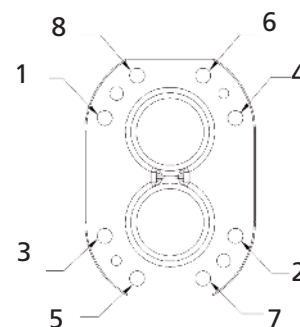

Figure 10. Bolt tightening sequence
6. Slide the cover over the dowel pin and replace the screws. Alternate tightening screw from top to bottom and side to side (Check fig 10)
5. Tighten the screw as per the bolt sequence mentioned in fig 10.